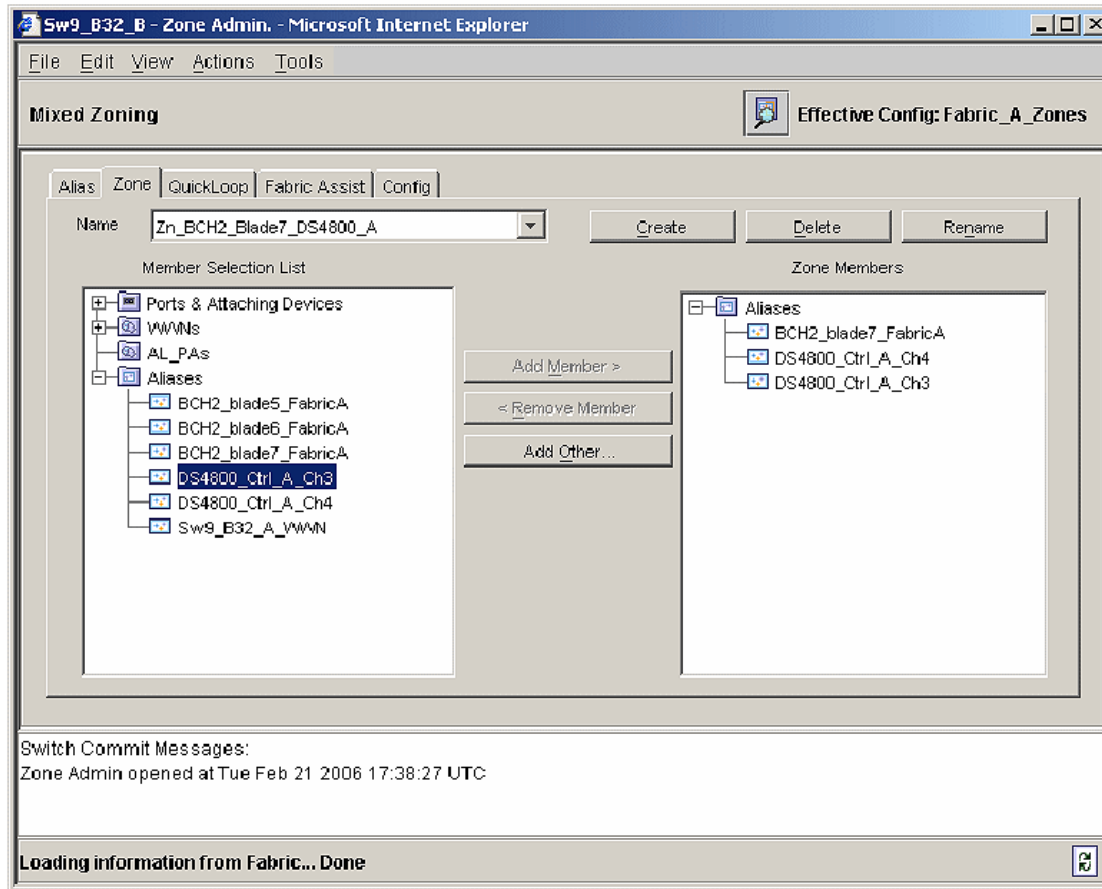

Figure 5-60 Adding Members to a zone
- Expand the Alias tree in the left hand side of the zone window. Highlight the Alias name for correct server blade and click **Add Member**. Also add to the zone the Alias names for the DS4800 ports (see Figure 5-60).